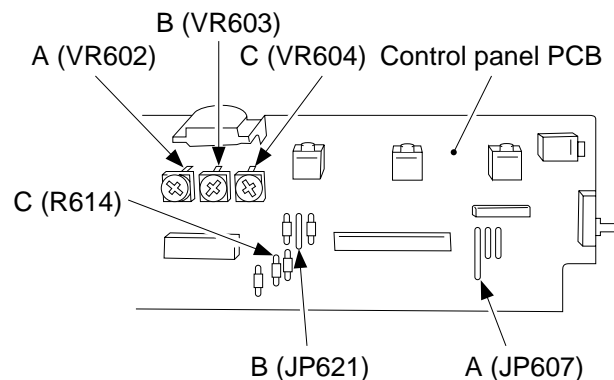

Figure 2-1B (PC420/430/FC220)
- 2) Set the meter to the '200 k' range, and measure C between the terminal of VR604 and the terminal of R614 on the detached control panel PCB; see Figure 2-1B.
- 4) In the case of the PC420/430/FC220, adjust VR602 (A between terminals of VR602 and JP607) and VR603 (Between terminals of VR603 and JP621); see Figure 2-1B.